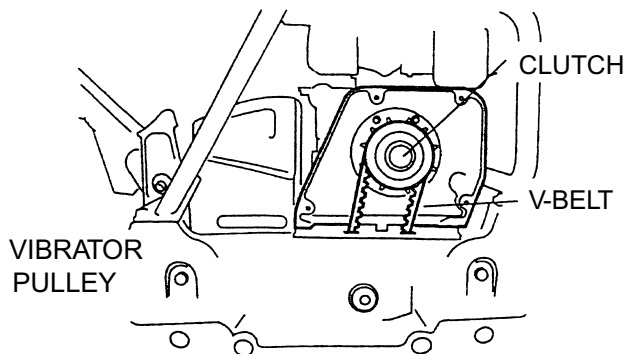

Figure 29. V-Belt Check
- Remove the belt cover (Figure 29). Engage an offset wrench 3/4" (19 mm) or the like to vibrator pulley (lower) fastening bolt. Engage wastecloth or the like at midway of V-belt on the left side and while pulling it back strongly, rotate the offset wrench clockwise so that the V-belt will come off.